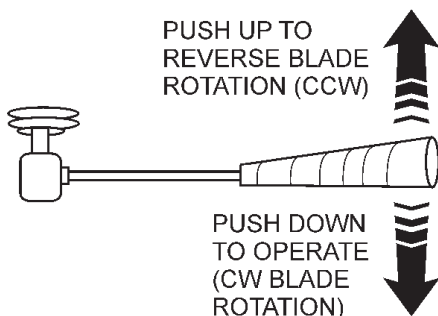

Figure 31. Hopper Remixer Control Lever
- Push the Hopper Remixer Control Lever **DOWNWARD** (Figure 31). The Hopper Remixer Control lever is located to the left of the Hydraulic Temperature gauge. Observe that the blades (Figure 32) inside the hopper are turning in a clockwise direction (FORWARD). To turn the blades in a counterclockwise direction (REVERSE), push the Hopper Remixer Control lever **UPWARD** (Figure 31).